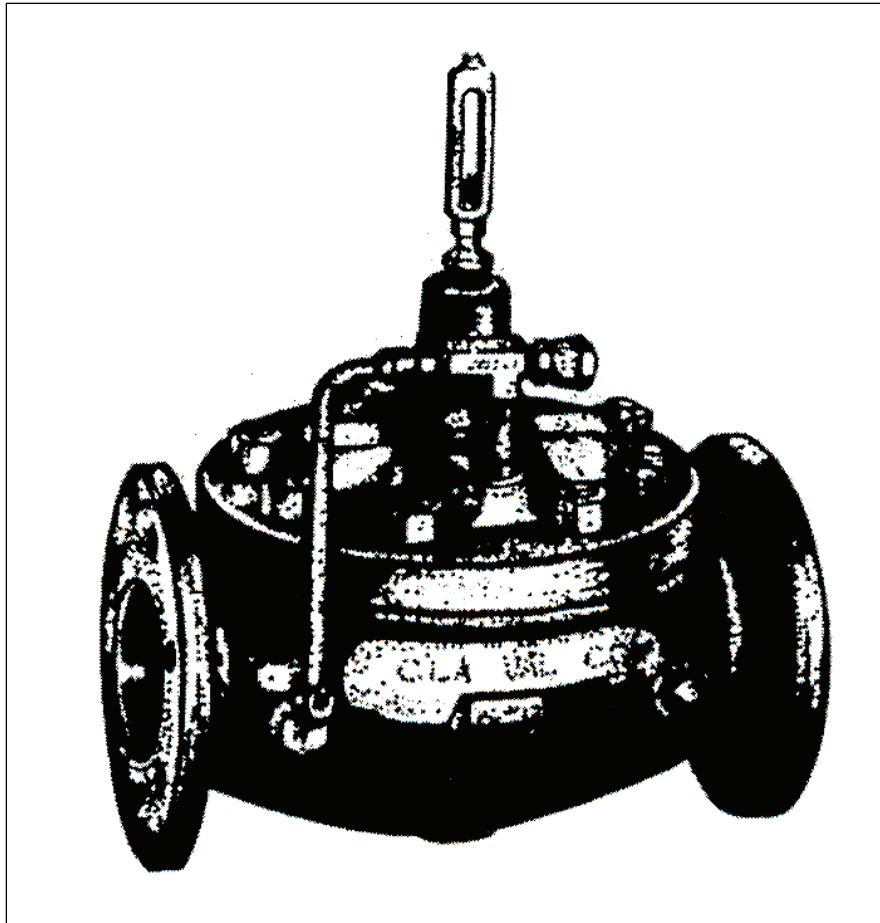

Figure 4
- e. Pressure Reducing Valve (Figure 4).
- (1) Inspect small strainer on pilot tube at least every 3 months. If this strainer becomes clogged, valve will malfunction. Clean strainer when necessary.
- (2) Remove diaphragm and inspect it once a year for wear and breaks in synthetic rubber material.